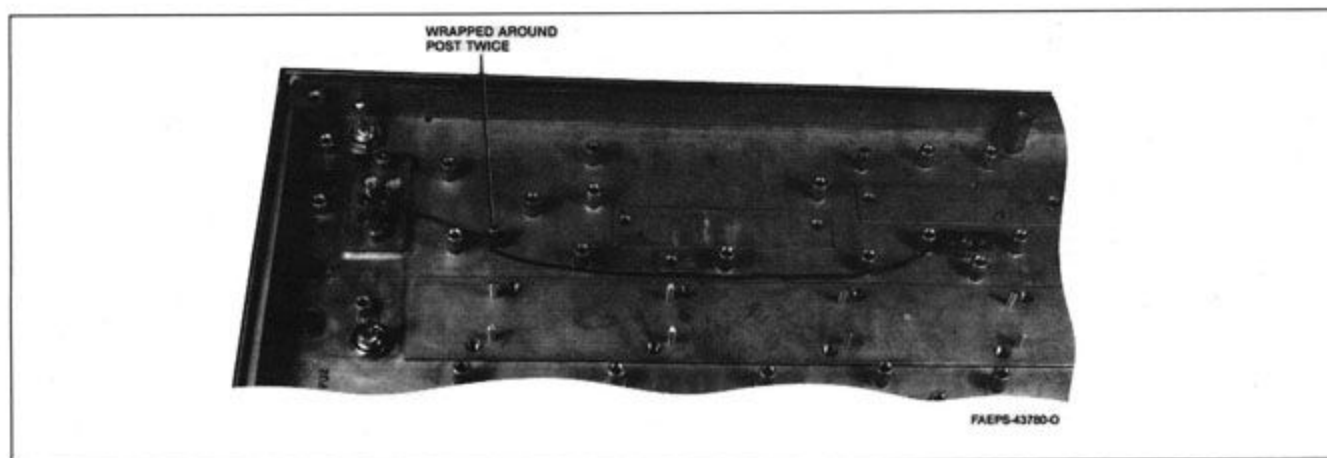

Figure 7. FPA Route of Thermistor Board Output Wire
Step 4. Screw thermistor board to heat sink, taking care to dress brown wire properly. (See Figure 7.)